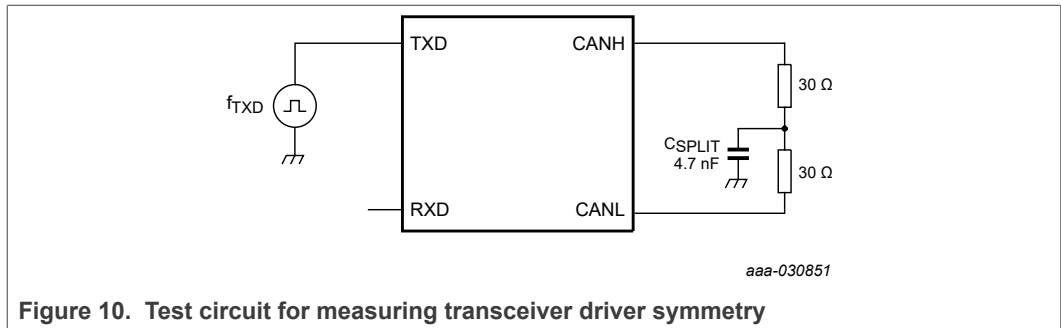

Figure 10. Test circuit for measuring transceiver driver symmetry
- [1] Only the TJA1042T(K)/3 and TJA1042BT(K) variants have a  $V_{IO}$  pin; for the TJA1042T and TJA1042CT variants, the  $V_{IO}$  input is internally connected to  $V_{CC}$ .
- [7] The test circuit used to measure the bus output voltage symmetry (which includes CSPLIT) is shown in Figure 10.